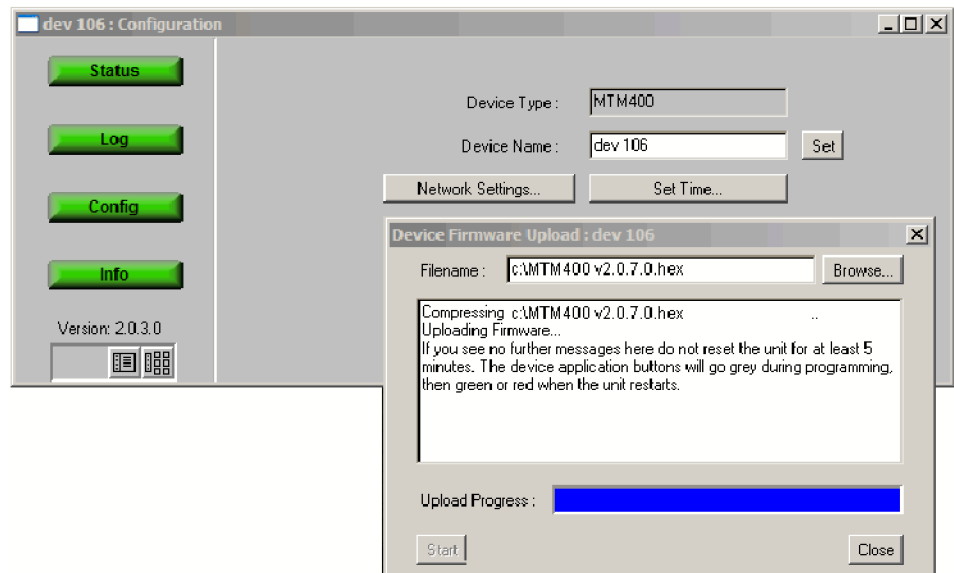

Figure 10: Completed BIOS upload (RUI v2.6.1 and below)
7. When all four of the buttons in the Device view have been active (colored red, green, or yellow) for longer than 20 seconds, and the progress bar in the Device Firmware Upload dialog is full, the BIOS Loader is successfully loaded. (See Figure 10.)